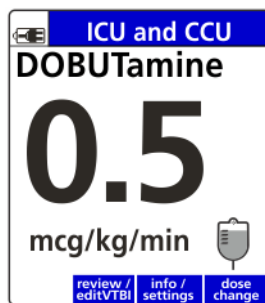

Figure 73. Infusion Running Screen.
- Press the **dose change** soft key. See Figure 73.